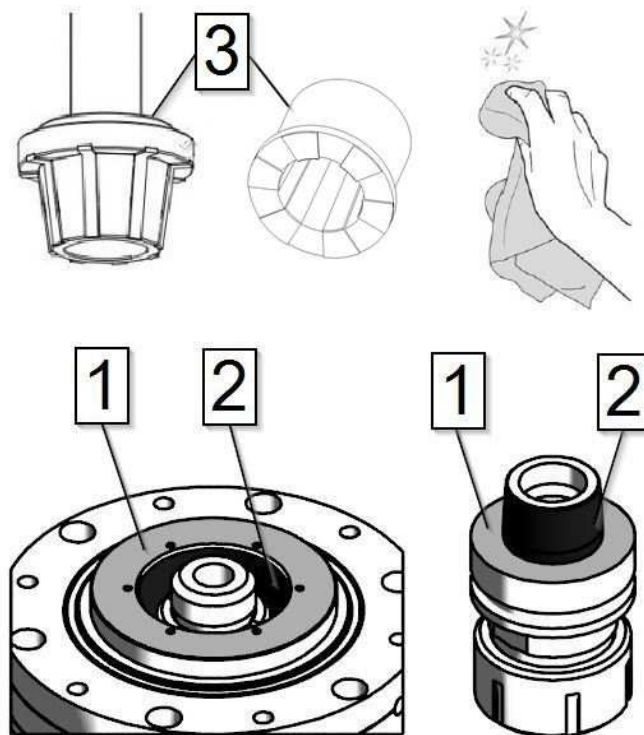

Fig.49– Cleaning the HSK mount
- The conical surfaces of the tool holder (in Fig.49, on pg.70 illustrated in black) and the seat of the tool holder, as well as its contact surfaces (in Fig.49, on pg.70 illustrated in grey) must be very clean and may not show any traces of dust, grease, coolant, oil, metal parts, or traces of oxide or lime.